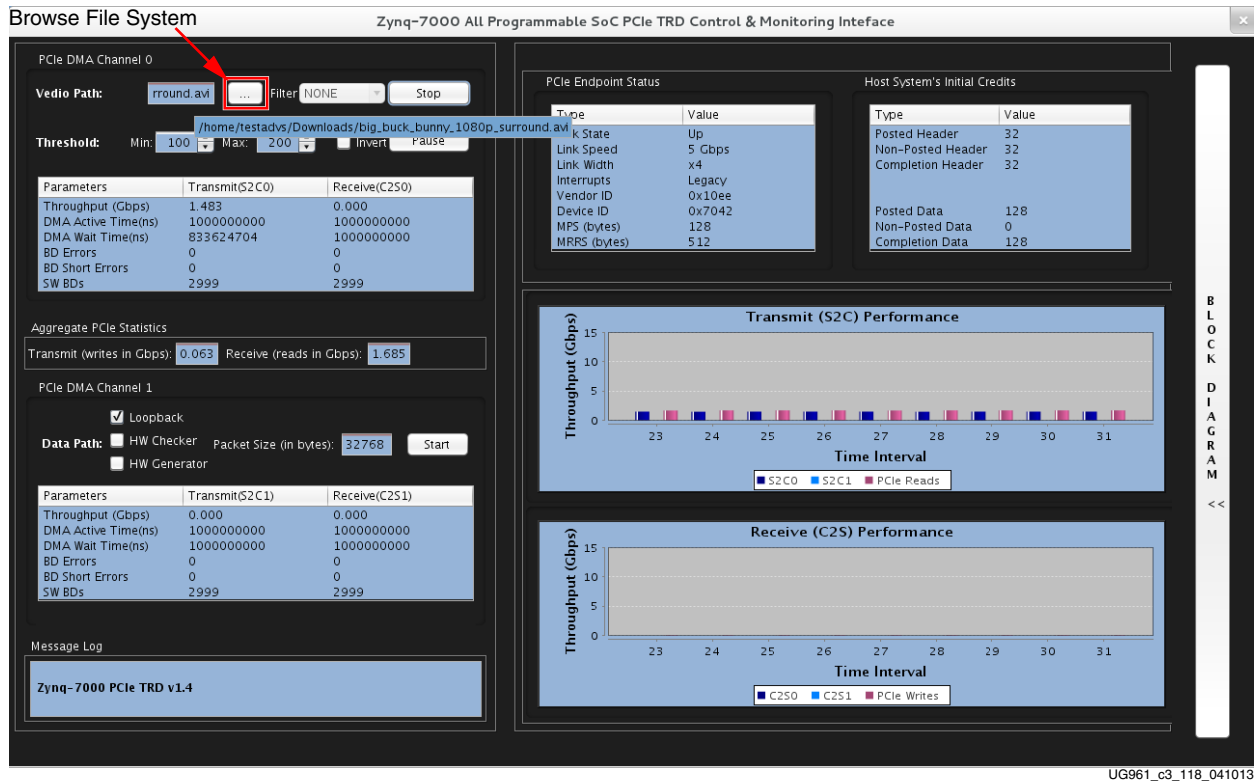

Figure 3-18: Video Mode GUI
- After installing the Video mode driver as described in step 4, page 25, the control and monitor user Interface pops up as shown in Figure 3-18. The control pane shows control parameters such as a video path browse option and sobel filter type selection.
- To select a video file present on the host file system, click the browse file system button (Highlighted in Figure 3-18).